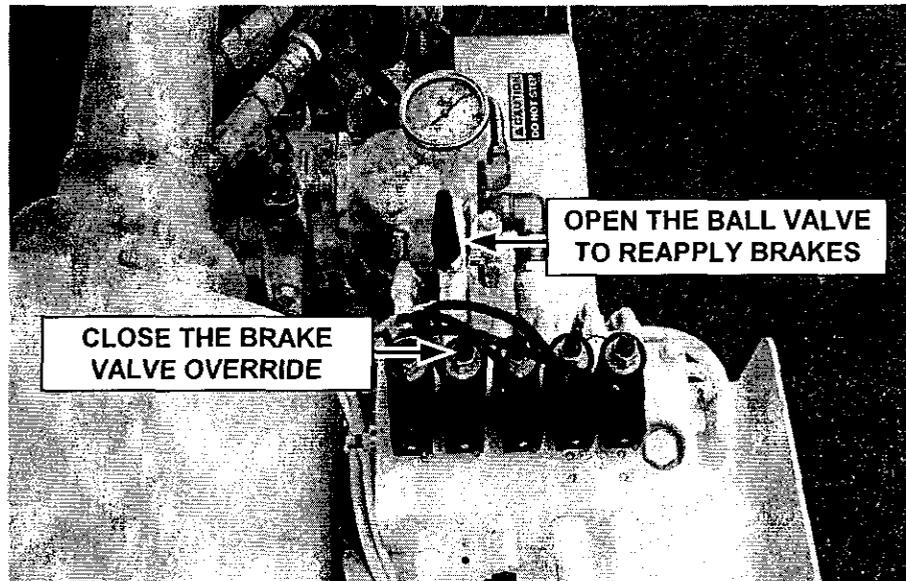

FIGURE 42
10. Once the machine has been towed out of the roadway and into the desired location the brakes should now be reset. Do this by simply opening the brake pressure ball valve and then closing the brake valve override. This will reapply the brakes (figure 42).